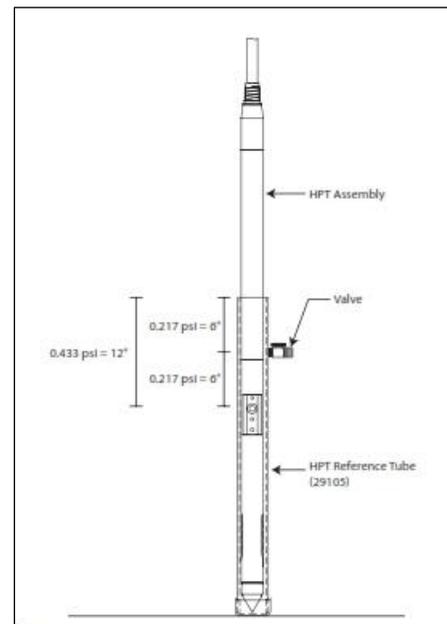

Figure 5.13: HPT Reference Test Setup
3. Insert the probe into the HPT reference tube and allow the water to flow out the valve adjusting the flow rate to between 200-300ml/min (Fig. 5.13). Ensure that the reference tube is close to vertical.